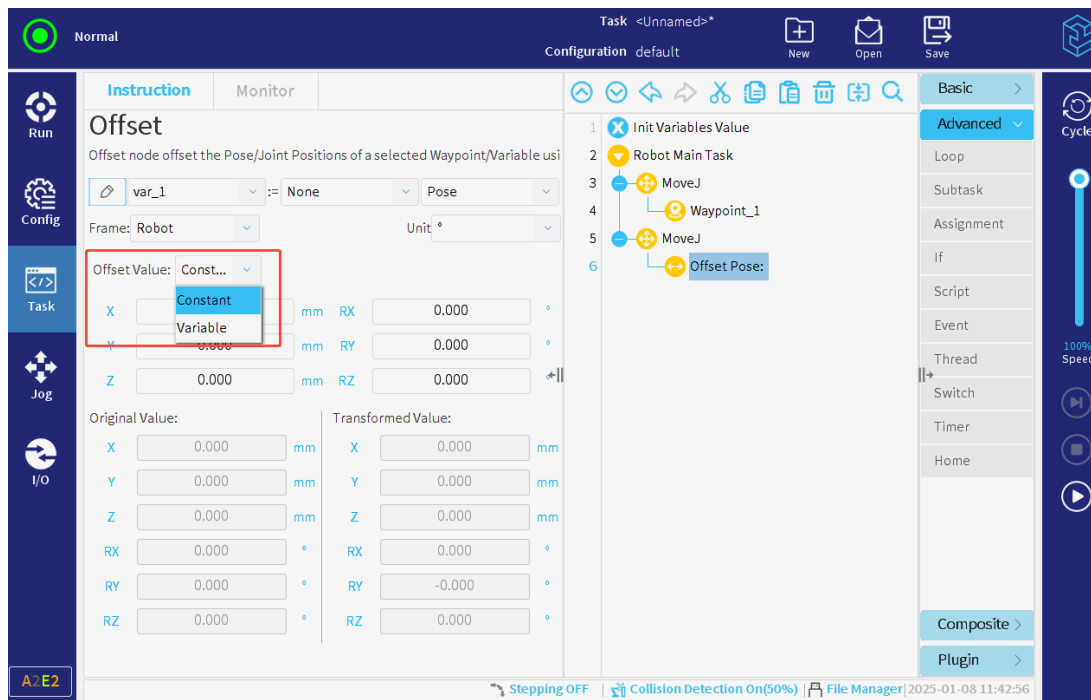

Figure 3-118 : To Specify Offset Values
- To specify the offset value to be a constant or variable one, as presented in **Figure 3-118** .